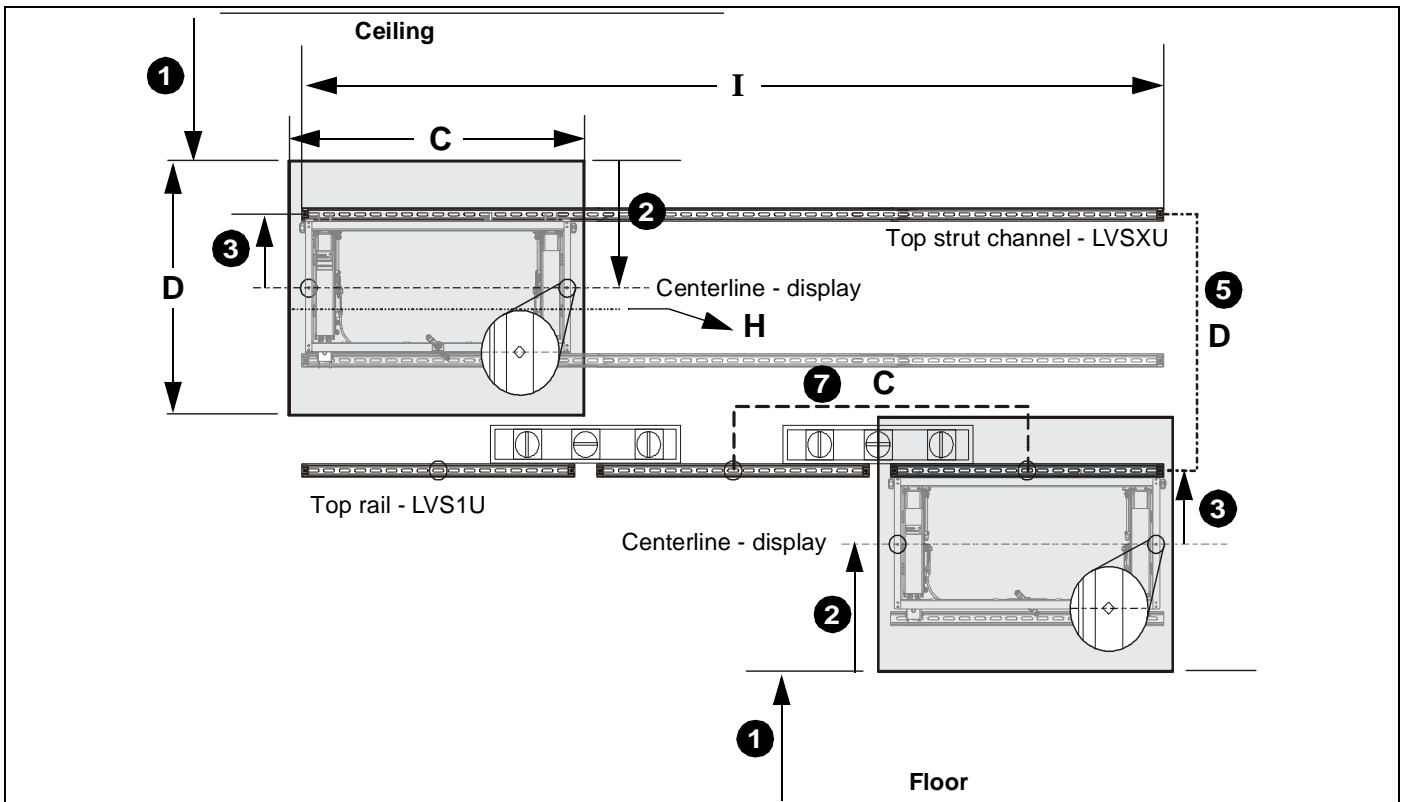

Figure 5
1. Mark distance **(F)** from floor to desired location for **bottom** of display **OR** from ceiling to desired location for **top** of display (if installing top row first). (See Figure 1) and (See Figure 5)
2. Mark distance **(G)** from bottom of display (or top of display) to center line of display. (See Figure 1) and (See Figure 5)
4. Level and attach strut channel/rail (V) using the provided hardware. See **Parts** drawing, (See Figure 5) and (See Table 2).
8. **(LVS1U only)** Measure over **(C)** (width of display) from center of first installed rail, level and mark location of adjacent rail. (See Figure 1) and (See Figure 5)
10. Attach upper rails (V) using **Fastener Information**. (See Table 2)
11. Measure up from attached rails the distance **(D)** and mark for next row of rails (V). (See Figure 1) and (See Figure 5)
13. Repeat Step 11 for any remaining rows of rails (V).